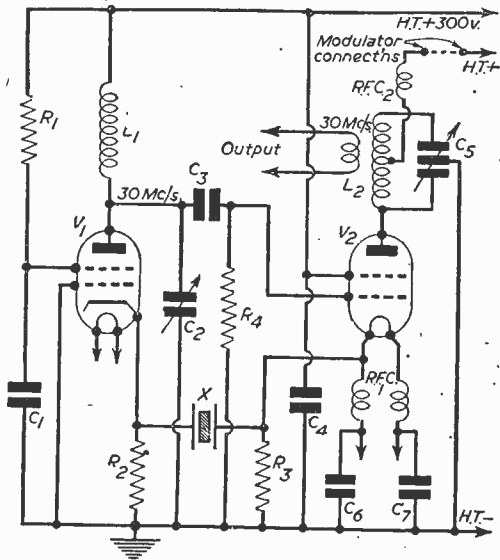

Fig. 7.—A two-valve transmitter circuit for 30 Mc/s.
A useful two-valve transmitter for 30 Mc/s is shown in Fig. 7, based on information given by Goldberg and Crosby. In this case the grounded grid stage is a tetrode, a 6L6, and the cathode follower section of the oscillator is formed by the cathode, control grid and screen grid of the P.A. tube. The anode circuit of the P.A. works independently, via electron coupling within the tube. The anode circuit of the 6L6 is tuned to 30 Mc/s and the crystal is connected between the two cathodes in the usual manner. The crystal may be in the 9-10 Mc/s range, operating at its third overtone, or in the 5.5-6 Mc/s range, operating at its fifth overtone. A full 150-watts input can be used on the 813, without excessive crystal current or overheating, working at 1,000-1,500 volts at 100-150 mA, and the output can be 100 per cent. modulated with only slight distortion or frequency deviation.
**COMPONENTS (Fig. 7)**